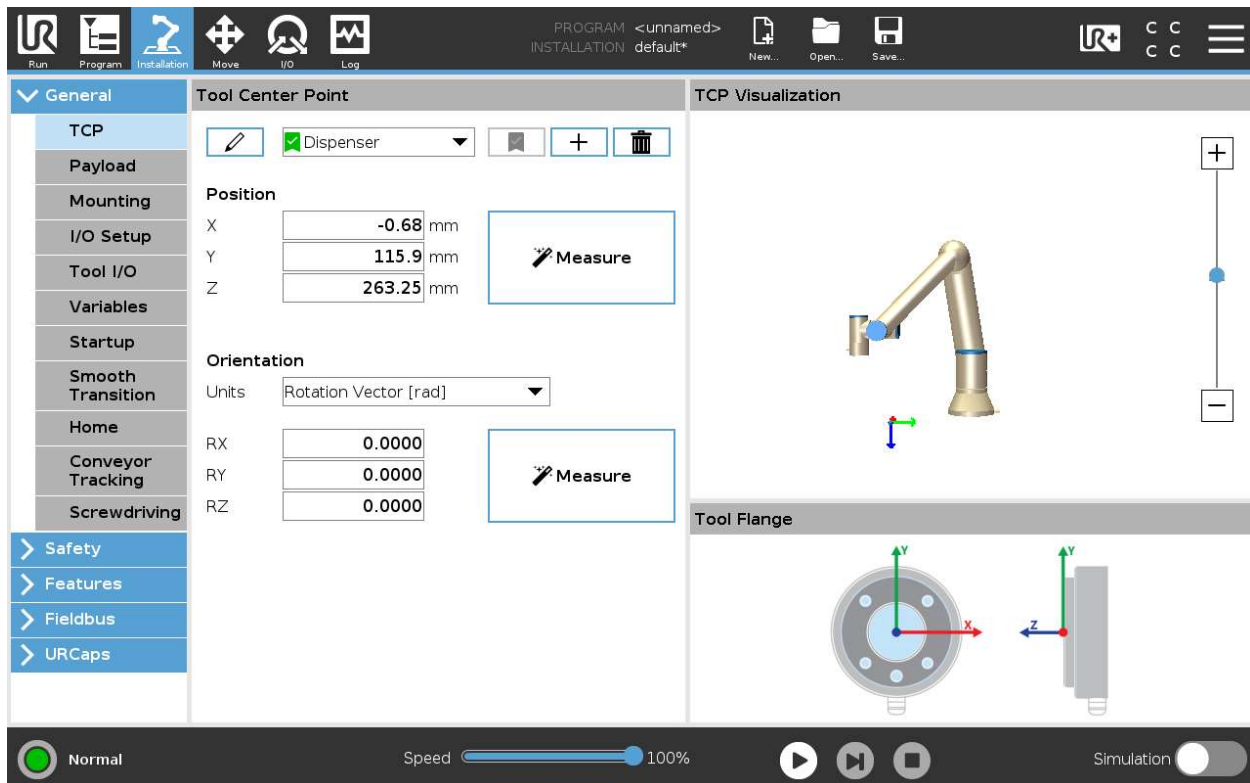

Figure 4 – TCP Definition
- 1) Create a TCP and define its position (X,Y,Z) offsets using the position “Measure” wizard and the 4 point method using Polyscope’s TCP definition page as shown in Figure 4. You may refer to the Polyscope user manual for further details on how to teach a TCP.